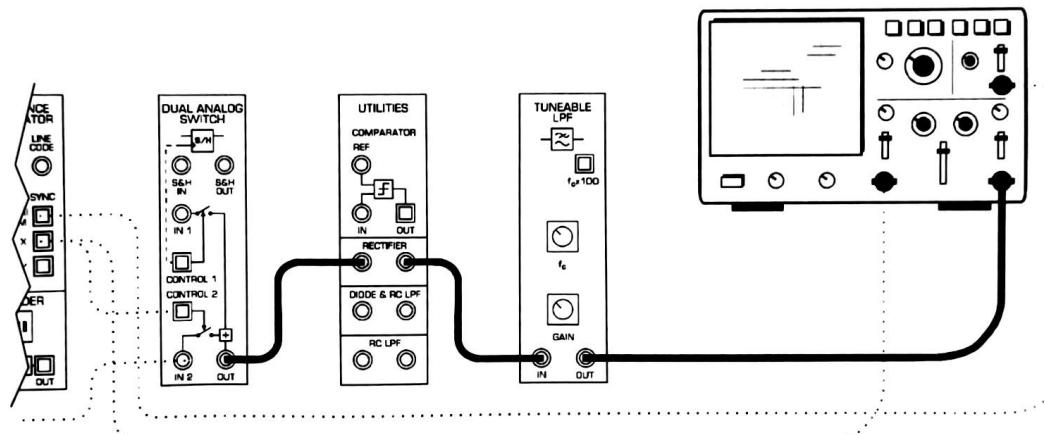

Figure 6
17. Modify the set-up as shown in Figure 6 below.